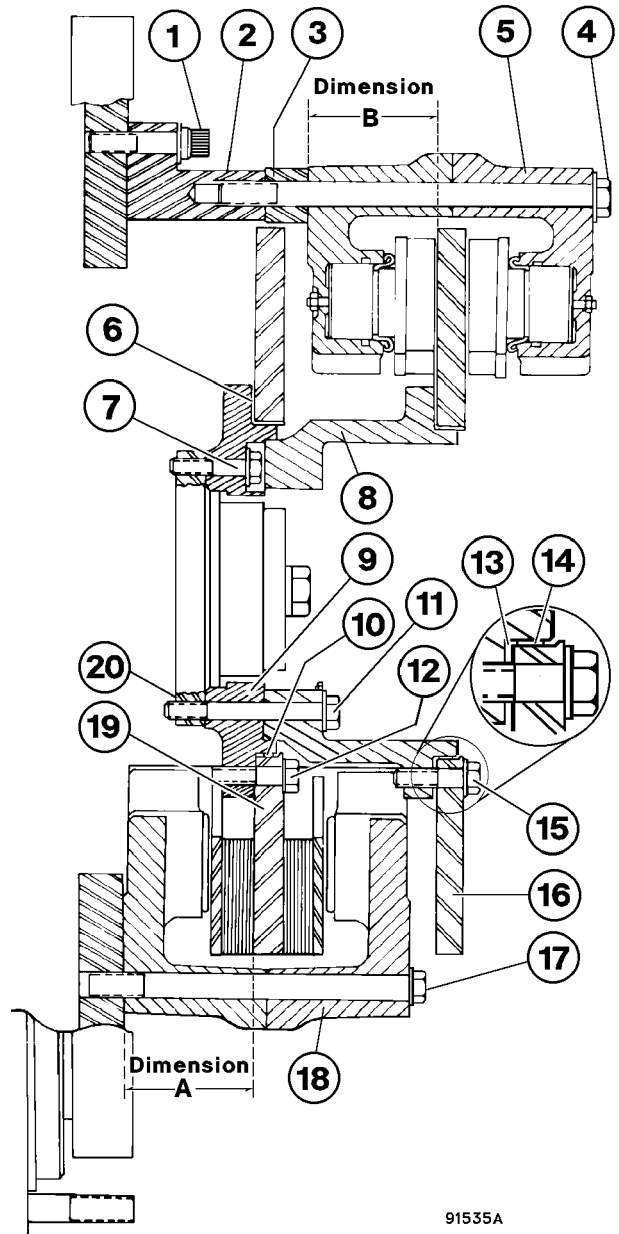

FIGURE 6-3. REAR DISC BRAKE
15. Install two 7/8 UNC-16 in. studs in the two center caliper mounting capscrow holes for the upper brake caliper (5).
16. Install park brake bracket (3).
17. Install outboard disc (16) with four equally spaced mounting capscrows (15). Tighten, but do not establish final torque at this time.
18. Measure distance from outer face of park brake bracket (3) [caliper mounting surface] to inner face of outboard disc (Dimension "B", Figure 6-3).
19. Subtract distance determined in Step 18 from 4.375 in (11.113 cm). This difference is the shim pack thickness to be placed between adapter (8) and outer brake disc (16). Refer to Shim Pack Chart.
21. Remove outer disc and install inner half of caliper (5) over the two studs.
22. Install shim pack determined in Step 19 on adapter (8).
23. Install outboard disc (16) and bushings (14). Install capscrows and flatwashers (15). Tighten capscrows to standard torque.
24. Remove studs and install outer caliper half (5) and secure in place with capscrows and flatwashers (4). Tighten capscrows to standard torque.